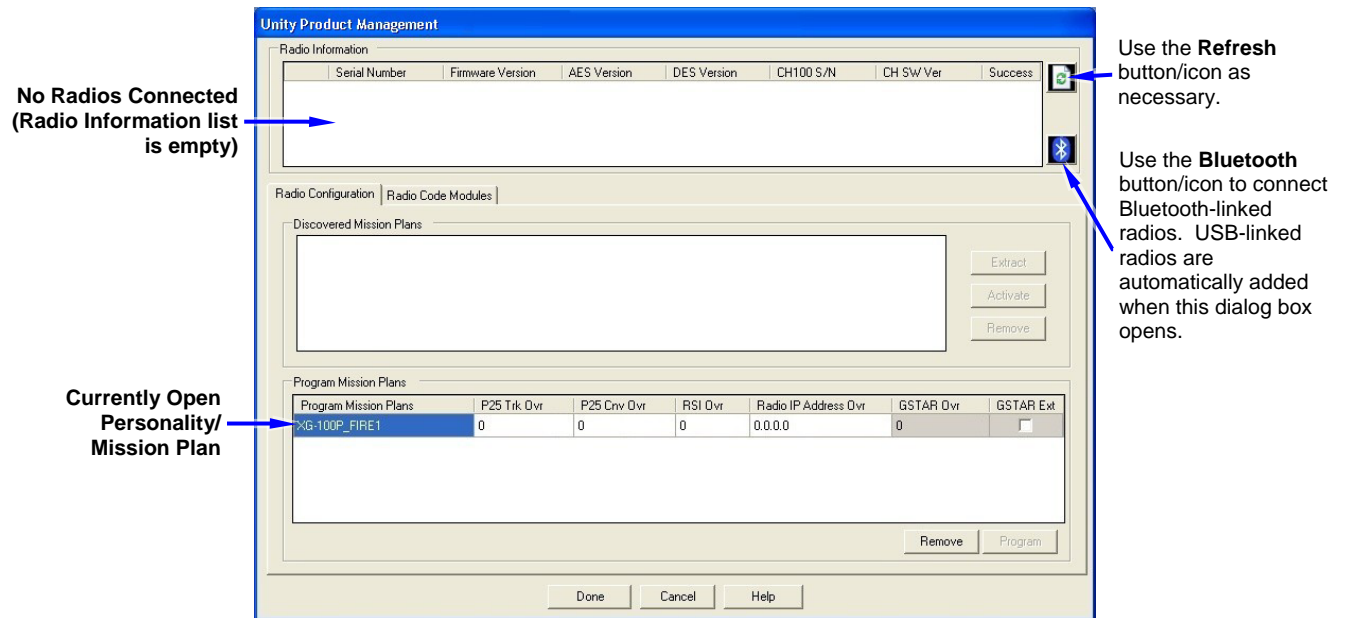
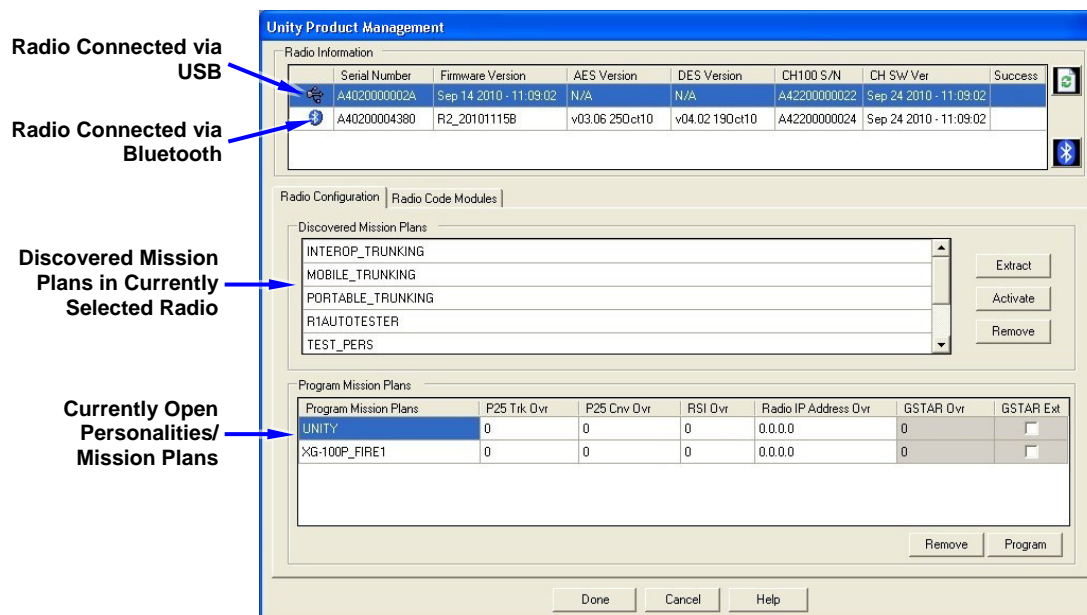

Figure 10-4: Unity Product Management Dialog Box (Example with no Radios Connected)
Figure 10-5: Unity Product Management Dialog Box (Example with two Radios Connected)
4. In RPM, click on the  icon in the toolbar, or from the **Radio** menu, select **USB/Bluetooth Connection > Unity Product Management**. The **Unity Product Management** dialog box opens. Example dialog boxes are shown in Figure 10-4 and Figure 10-5.